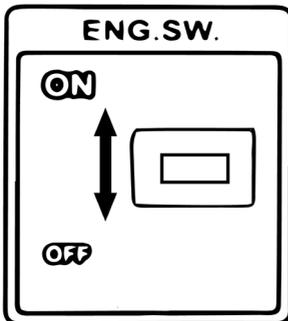

Figure 17: Motor switch
- Move the red motor switch to the "ON" position. (Fig. 17)